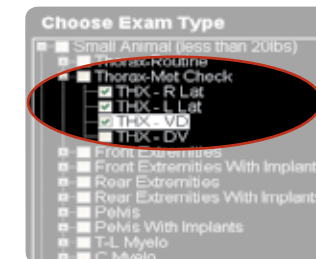

Figure 10-3: Click a small black box to open the next level. Click a larger white box to select that exam type.
- When you have found the radiographs you want to take, select the white boxes so that a check mark appears next to the exam types for those radiographs. (See Figure 10-3.)